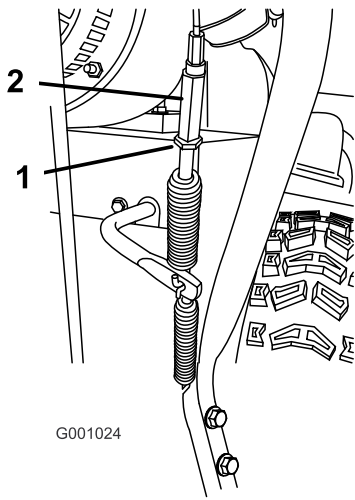

Figure 20
1. Loosen the jam nut (Figure 20).
- Loosen or tighten the turnbuckle that adjusts the tension on the cable (Figure 20).